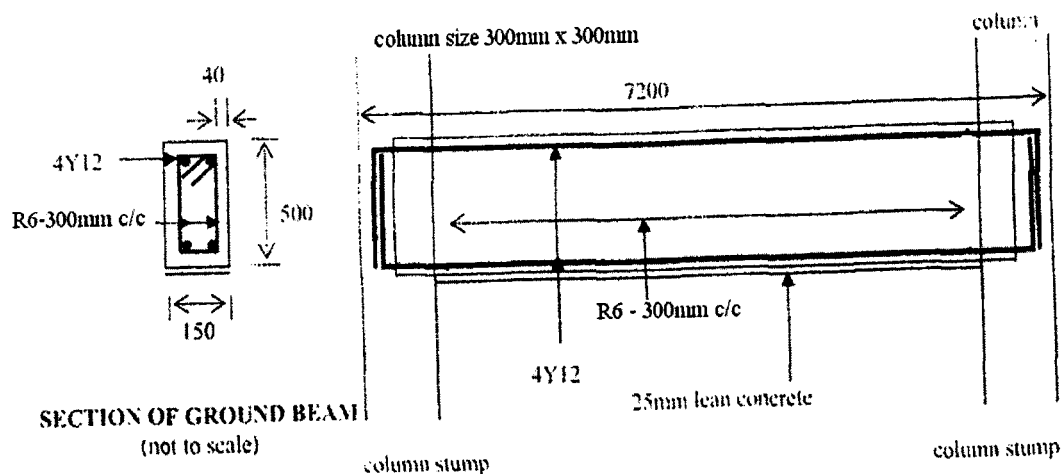

Figure B4(a) /Rajah B4(a)
- (c) **Figure B4(b)** shows a plan view of a brick wall. Based on the data given, calculate the quantity measurement for external wall finishes with 230mm thick.